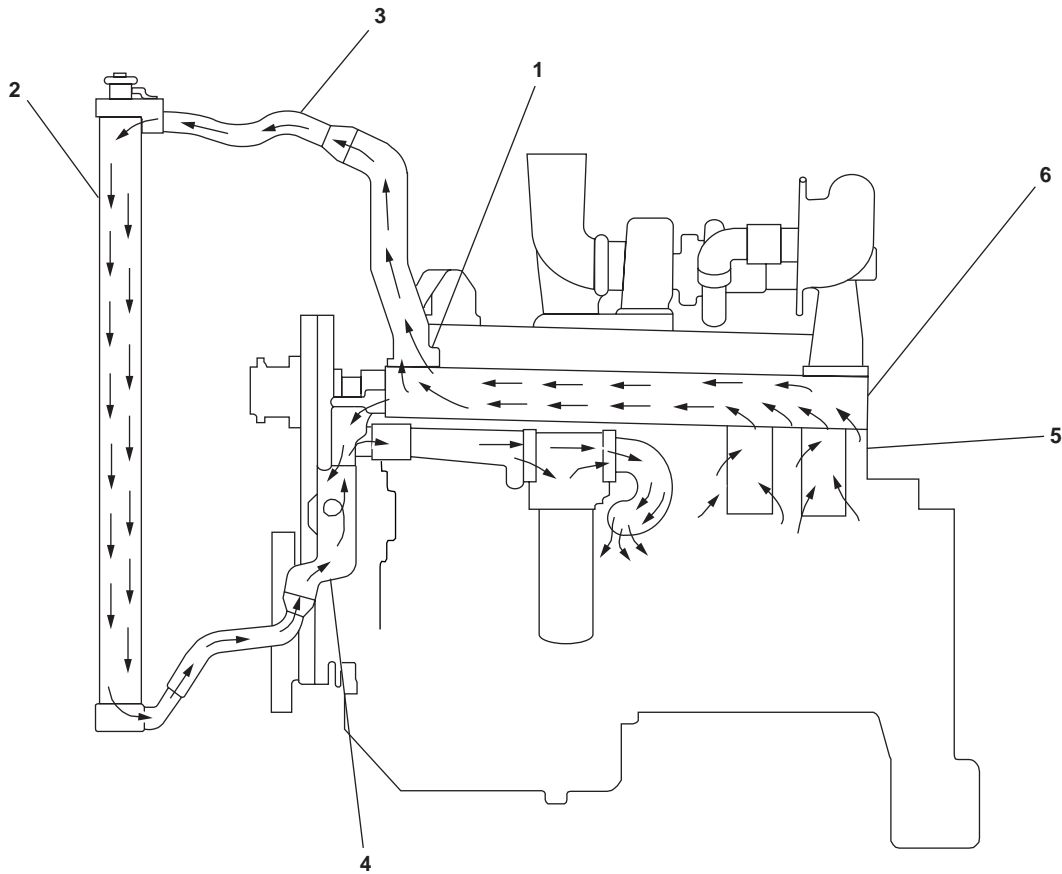

Figure 2. Typical Radiator Engine Cooling System
Coolant flows from the EDG's coolant regulator (figure 2, item 1) to the radiator (figure 2, item 2) inlet (figure 2, item 3). The radiator utilizes many cooling fins to dissipate heat from the coolant to the air as it flows through its tubing. When the coolant reaches the bottom of the radiator (figure 2, item 2), the coolant should be cooled significantly before it flows toward the EDG engine water pump (figure 2, item 4).